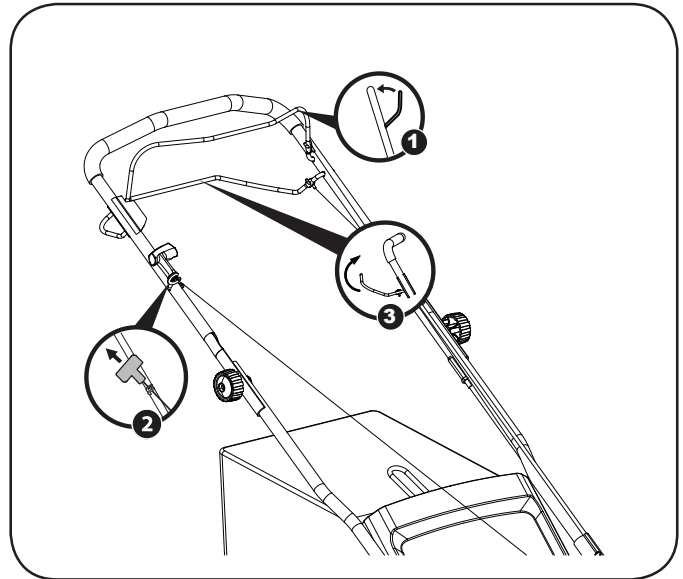

Figure 9
1. Standing behind the mower, pull the blade control handle back against the upper handle (Figure 9).
2. While holding the blade control against the upper handle, grasp the recoil starter handle and pull rope out with a rapid, continuous, full arm stroke. Keeping a firm grip on the starter handle, let the rope rewind slowly. Repeat until engine starts. Let the rope rewind each time slowly (Figure 9).
3. Pull the drive control up against the upper handle and hold it to engage the self propel function (Figure 9).